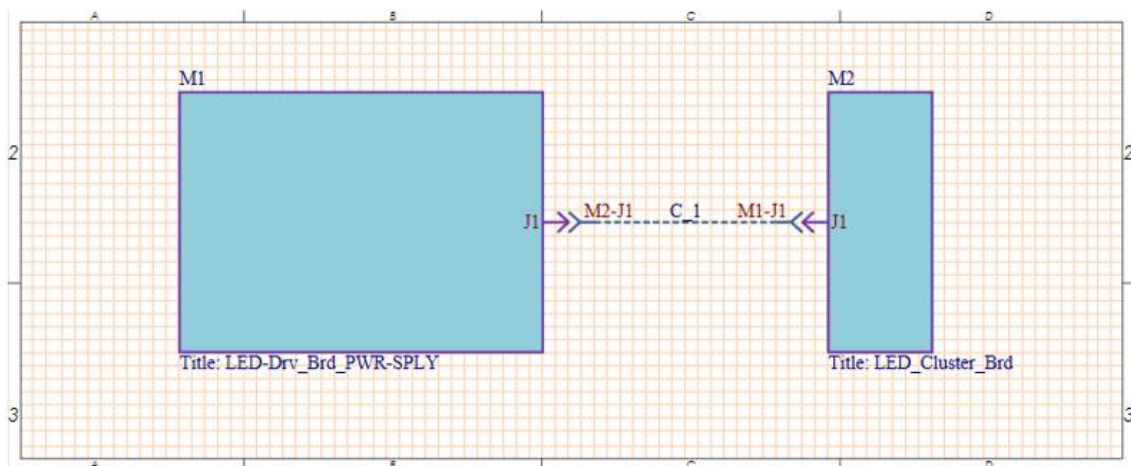

Figure 14. Completed MB Schematic with connected modules
35. Your completed Multi-Board Schematic should look like Figure 14 below.